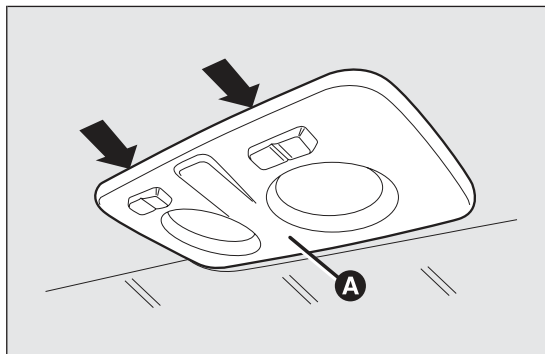
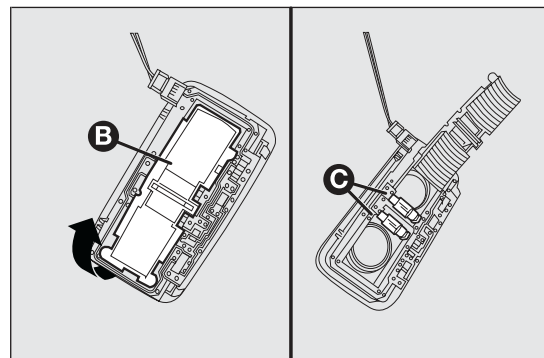

fig. 174
fig. 175
- ☐ operate in the points indicated by the arrows and remove roof light A fig. 174;
- ☐ open protective flap B fig. 175;
- ☐ close flap B fig. 175 and fix roof light A fig. 174 in its housing, making sure that it locks into place.